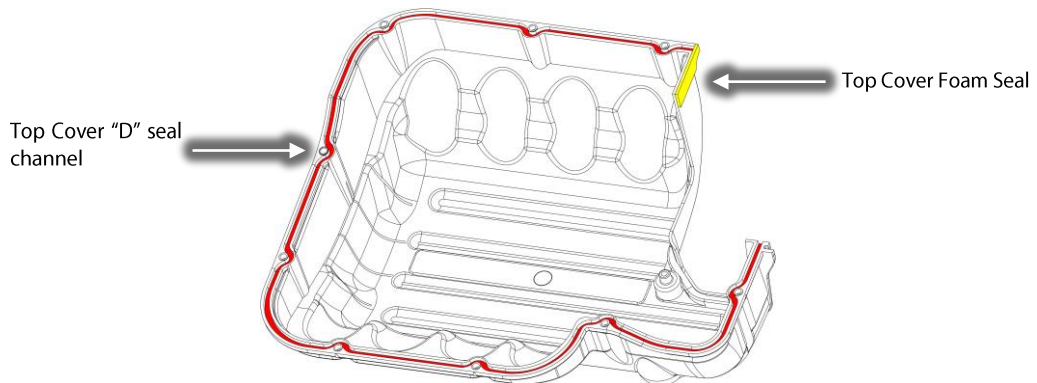

Figure 22 – Top Cover Underside
6. Go back and gently press the seal to ensure it is properly seated in all locations. Refer to Figure 22 (Top Cover Underside) for an illustration of the seal location under the cover.